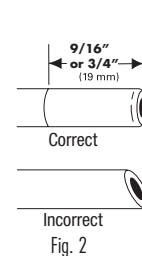
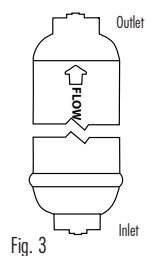

Fig. 2
Fig. 3
3. Measure 9/16" from the inlet tubing end and mark with a pencil. Measure 3/4" from the outlet tubing end and mark with a pencil. (See Fig 2) See Figure 3 for inlet/outlet designation.
4. Observe the arrow on the filter label that indicates inlet and outlet and install accordingly. See Fig.3.